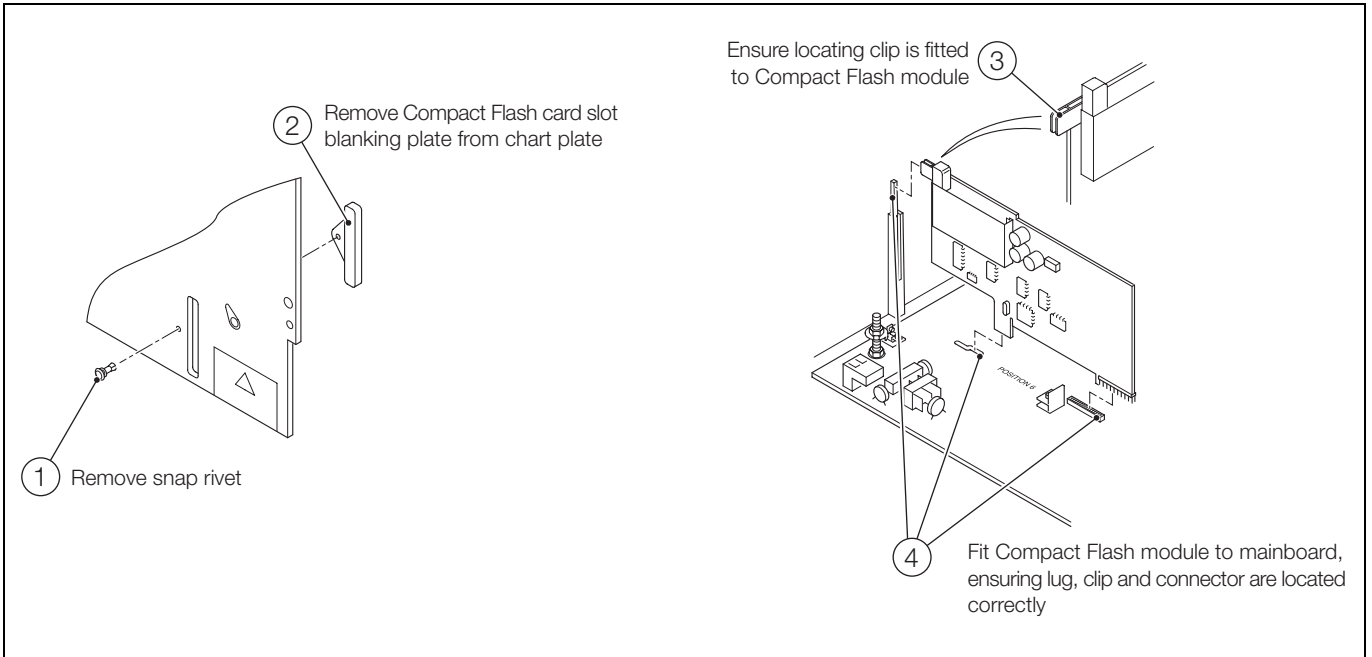

Fig. 3.2 Fitting the Compact Flash Module
6. Fit the Compact Flash module as detailed in Fig. 3.2 on page 3.